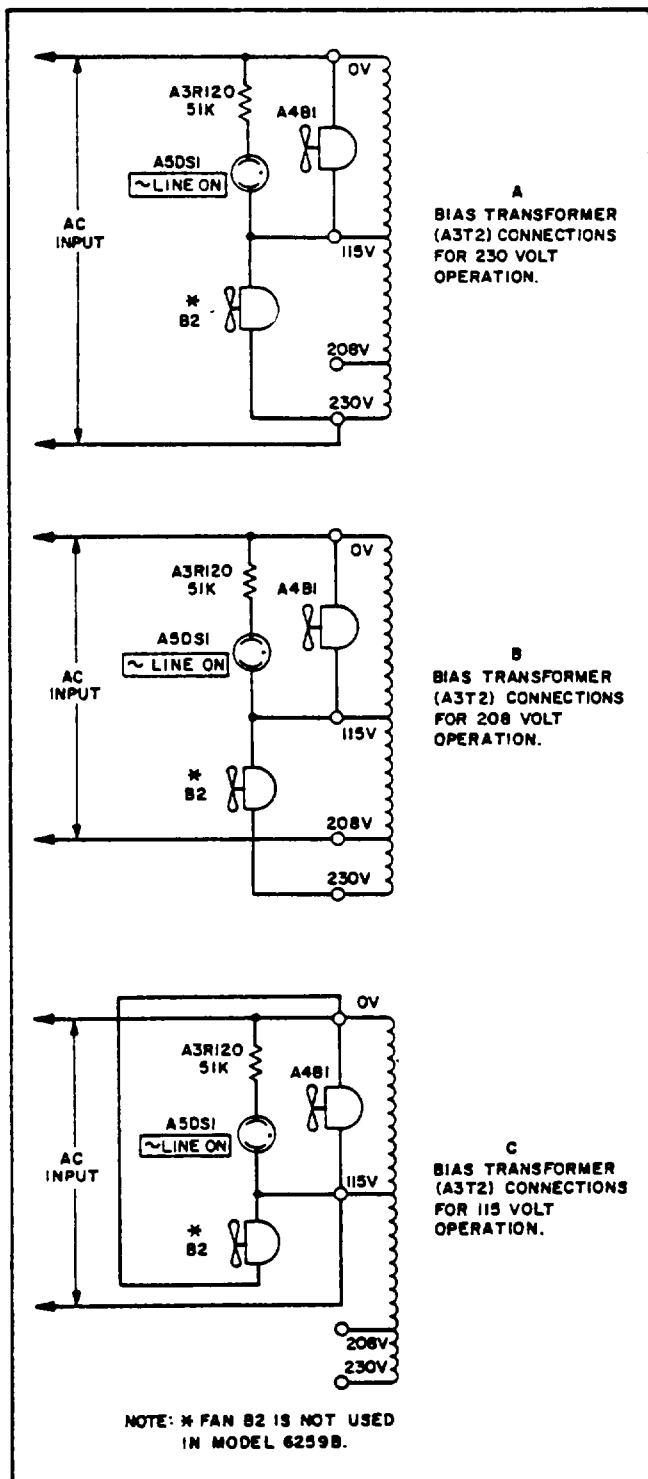

Figure 2-2. Bias Transformer Primary Connections for 208Vac Operation (Model 6259B, 6260B, 6261B, 6268B, and 6269B) and 115Vac Operation (Except Model 6269B)
transformer (see Figure 2-2 B). Leave wire from fan B2 (not used in 62599) soldered to "230V" terminal.
- Unsolder wires from circuit breaker A5CB1 and fan B2 connected to "230V" terminal of bias transformer A3T2 (see Figure 7-2). Solder wire from circuit breaker to "115V" terminal of transformer, and solder wire from fan to "0V" terminal of transformer (see Figure 2-2 C). Note that